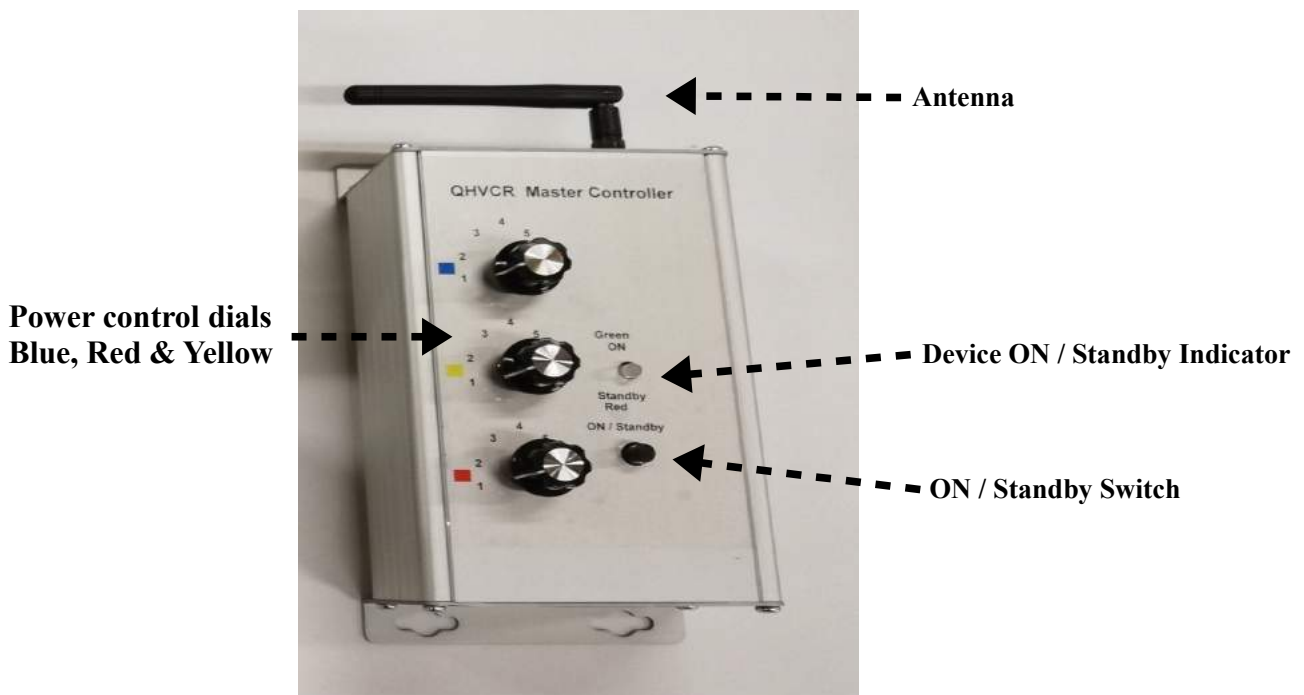

Fig 2
- 2) Turn ON the QHVCr unit by pressing the ON/Standby button on the front panel. The Led indicator will flash orange – green – orange – green and remain Green to indicate that the unit is ready see fig 2.
- 3) The QHCxxMR unit is preset as a Blue zone (1). Turn the Blue control dial to position **2**. The heaters connected to the QHCxxMR units will come ON at the minimum setting 33%. Continue to turn the Blue control dial through position **3** to **5** until you reach the desired setting. Settings are **1** = 0%, **2** = 33%, **3** = 50%, **4** = 66% & **5** = 100%.